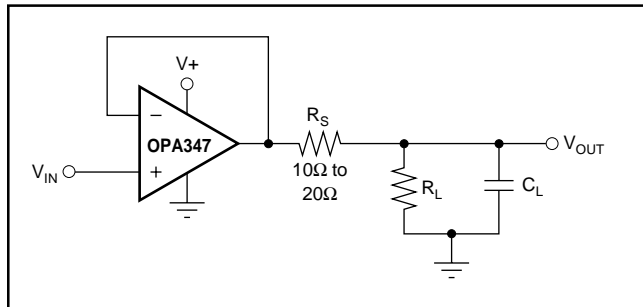

FIGURE 6. Series Resistor in Unity-Gain Buffer Configuration Improves Capacitive Load Drive.
The OPA347 in a unity-gain configuration can directly drive up to 250pF pure capacitive load. Increasing the gain enhances the amplifier’s ability to drive greater capacitive loads (see the characteristic curve “Small-Signal Overshoot vs Capacitive Load”). In unity-gain configurations, capacitive load drive can be improved by inserting a small (10Ω to 20Ω) resistor, R_S , in series with the output, as shown in Figure 6. This significantly reduces ringing while maintaining DC performance for purely capacitive loads. However, if there is a resistive load in parallel with the capacitive load, a voltage divider is created, introducing a Direct Current (DC) error at the output and slightly reducing the output swing. The error introduced is proportional to the ratio R_S/R_L , and is generally negligible.